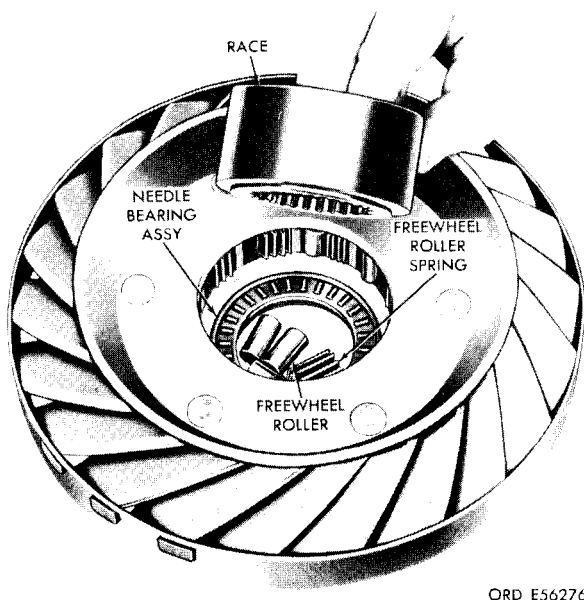

Figure 5-54. Removing freewheel roller race.
(1) Position stator and cam assembly (16) on bench so that freewheel roller race (35) is upward.
(2) Remove freewheel roller race by rotating it clockwise while lifting it out of converter stator and cam assembly (fig. 5-54).
(3) Remove 10 rollers and 10 springs from stator and cam assembly (fig. 5-54).
(4) Check needle bearing assembly (fig. 5-54). Do not remove it. Wash and flush needle bearing assembly thoroughly with dry cleaning solvent or mineral spirits paint thinner, dry, and lubricate with transmission oil. Rotate bearing while pressing upon rear thrust washer. If there is no roughness or binding, the bearing assembly and stator and cam assembly may be reused. Do not mistake dirt or grit for a damaged needle bearing. Reclean and re-oil needle bearing if dirt is suspected (TM 9-214).
(5) Do not attempt further disassembly of stator and cam assembly. If damaged or worn beyond reuse limits, install a new assembly (para 5-3a, d, and g).